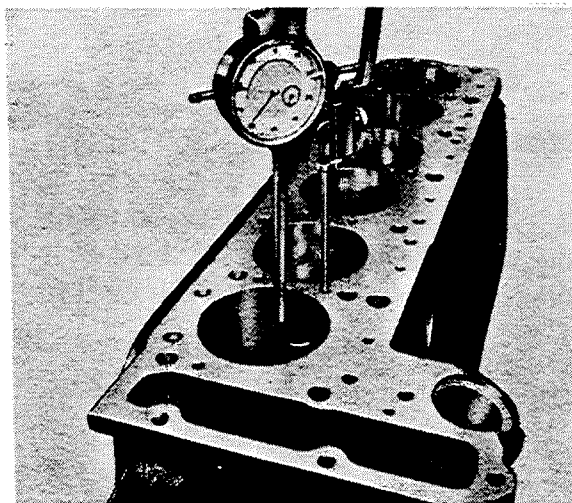

Fig. M 4a/1
1. After reboring and honing, the thickness of the cylinder walls must not be less than 3 mm (0.12"). To ensure that this value is adhered to when reconditioning the cylinder bore, check the walls with a suitable instrument (Fig. M 4a/1).